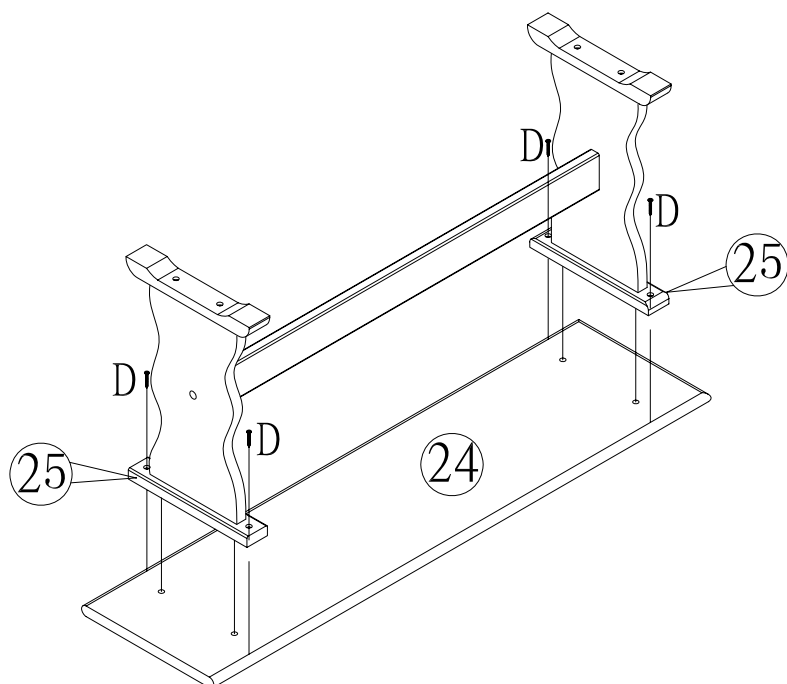

FIGURE 4
- 1) ATTACH ASSEMBLED LEGS TO SEAT #24 THROUGH FITTING WOOD DOWELS PRESENT IN UPPER SIDE OF SEAT TOP SUPPORTS #25 INTO HOLES LOCATED UNDERNEATH OF SEAT #24 AS SHOWN IN FIGURE 4. IT SERVES AS GUIDE ENABLING YOU TO CONNECT THE LEGS IN CORRECT POSITION.
- 2) USING PRE-DRILLED HOLES AS GUIDE, SECURE CONNECTION WITH (04) SCREWS(D) DRIVEN WITH SCREWDRIVER AS SHOWN IN FIGURE 4.
- 3) USING HELP, GENTLY FLIP SEAT WITH BOTH LEGS ON FLOOR AS SHOWN ON PAGE 1. HOLD ON ALLEN WRENCH(J) AND PREIODICALLY CHECK ALL CONNECTIONS FOR TIGHTNESS.